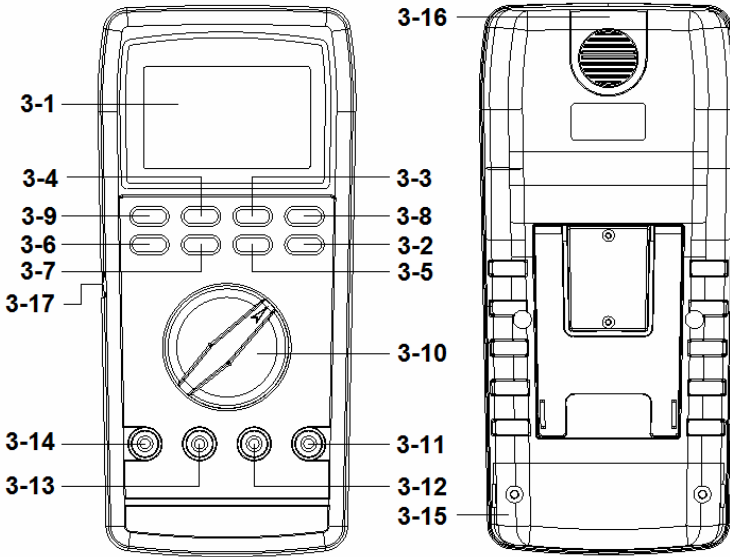

Fig. 1
- a. When not use the meter, should rotate the " Function rotary switch " (3-10, Fig. 1) to the " OFF " position.
Press the " TIME button " (3-2, Fig. 1) into the setting mode,the Poff set " no " auto power off function can be lifted.
- 1) Connect BLACK test lead into " COM " terminal (3-12, Fig. 1).
- 2) Connect RED test lead into " V " terminal (3-11, Fig. 1).
- 3) Select the " Function rotary switch " (3-10, Fig. 1) to the " V " position.
- 4) Push the " AC/DC button " (3-9, Fig. 1) to select the " ACV " or " DCV " measurement,
- 6) Under the operation of " auto range " mode, push the " Range button " (3-6 Fig. 1) once will execute the " Manual Range " mode and hold the range, the LCD will show the " MANU " marker.
Under the manual range operation, push the " Range button " (3-6 Fig. 1) > 2 seconds, will return to auto range operation.
During the measurement, if push the " VAHz button " (3-7 Fig. 1) once, until the LCD show the " Hz " marker and the display will show the frequency value of the measurement signal.
- 2) Connect RED test lead into " Ω " terminal (3-11, Fig. 1).
- 3) Select the " Function rotary switch " (3-10, Fig. 1) to the " Ω " position.
- 5) Under the operation of " auto range " mode, push the " Range button " (3-6 Fig. 1) will execute the " Manual Range " mode and hold the range, the LCD will show the " MANU " marker.
- 2) For the " 10 A " current measurement, connect RED test lead into " A " terminal (3-14, Fig. 1).
- 3) For the " 10 A " measurement (6A,10A), select the " Function rotary switch " (3-10, Fig. 1) to " A " position.
- 4) Push the " AC/DC button " (3-9, Fig. 1) to select the " ACA " or " DCA " measurement,
During the measurement, if push the " V/A/Hz button " (3-7 Fig. 1) once, until the LCD show the " Hz " marker and the display will show the frequency value of the measuement signal.
- 3) Select the " Function rotary switch " (3-10, Fig. 1) to the " $\cdot||$ " position.
- 3) Select the " Function rotary switch " (3-10, Fig. 1) to the " $\rightarrow|$ " position.
- 1) Select the " Function rotary switch " (3-10, Fig. 1) to the " + " position.